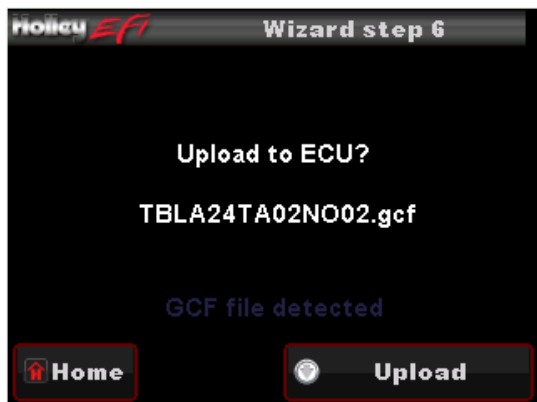

Figure 58
- After selecting injector type, your calibration will be created (Figure 58). Press the “Upload” button to send the calibration to the ECU. You will then see a screen showing “Uploading” (Figure 59). Finally you will see a screen indicating the file is uploaded. Cycle the ignition switch for the calibration to take affect (Figure 60). Proceed to section 21.0.